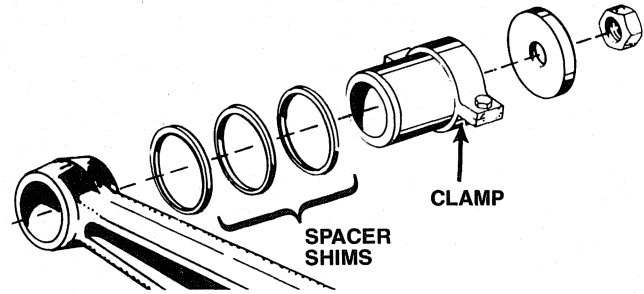

FIGURE 5
Note: Spacer Shims ($\frac{1}{8}$ " thick [Part No. 302401]) can be ordered separately and used as shown in Figure 5. The shims are stacked as required to correctly space the bushing for correct centering.
1. Attach and wrench tighten the Clamp (Item 8) onto the bushing as shown in Figures 5, 6 and 7. This clamp compresses the rubber between the inner and the outer sleeve to allow proper positioning of the tooling.